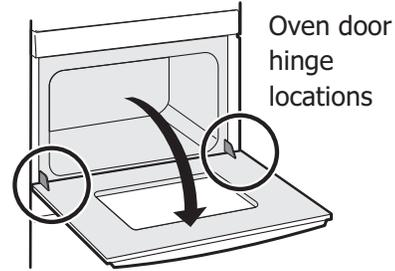

Figure 43: Door hinge location
1. Open oven door completely, horizontal with floor (Figure 43).
3. Fully open the oven door, horizontal with floor (Figure 43).